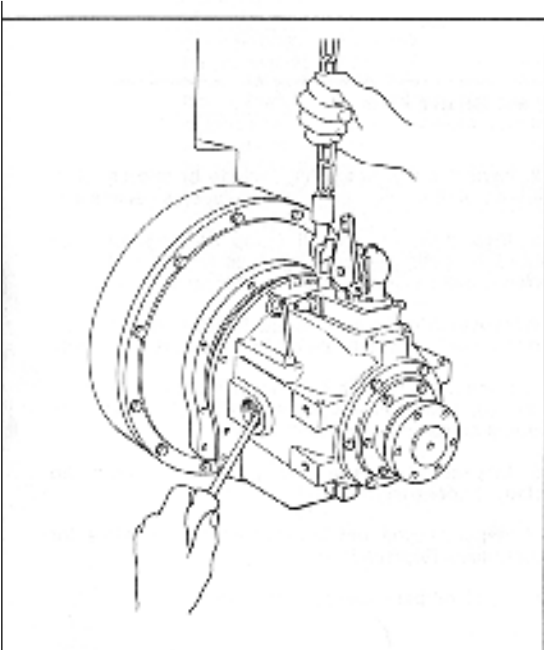

Figure 15. Maintaining clutch in place while removing transmission.
8. Insert screwdriver through breather hole or side inspection hole to hold clutch assembly inside forward drum (see fig.15). Carefully move forward housing aft and away from oil dam.